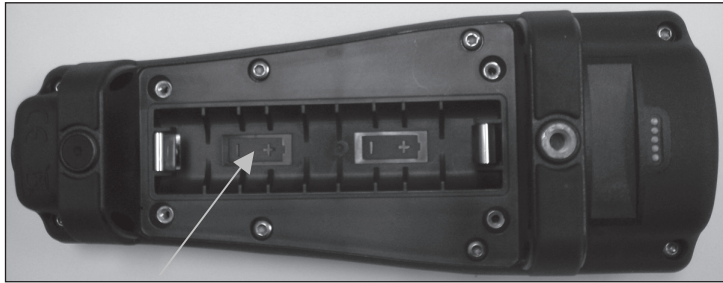

Figure 1. Pro1030 with battery cover removed. Notice battery symbols indicating polarities.
4. Install the new batteries, ensuring correct polarity alignment (figure 1).